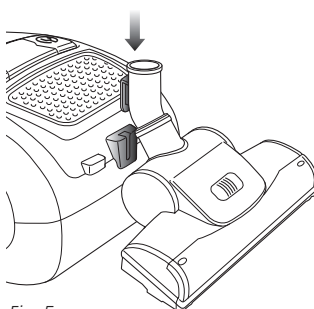

Fig. 5
- 6** To store the canister vacuum, insert the clip that is on the back of the air driven floor brush into the slot on the back of the vacuum. (**Fig. 5**)